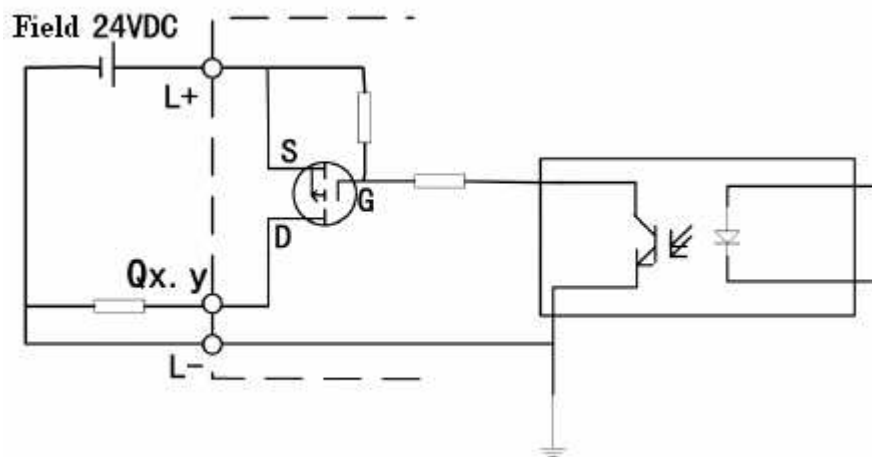

Figure 2.2.4 LM3104 Output Channel Equivalent Circuit
◇ Output channel (DO) equivalent circuit shown in Figure 2.2.4.